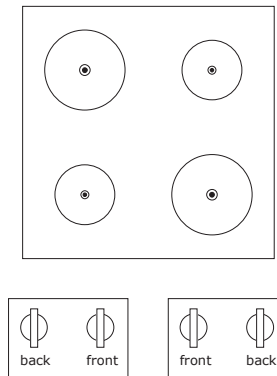

Figure 2.24: Paired cooker controls. Now there are only four possible arrangements, two on each side, but confusion can still occur.
- Paired Mapping (see Figure 2.24).